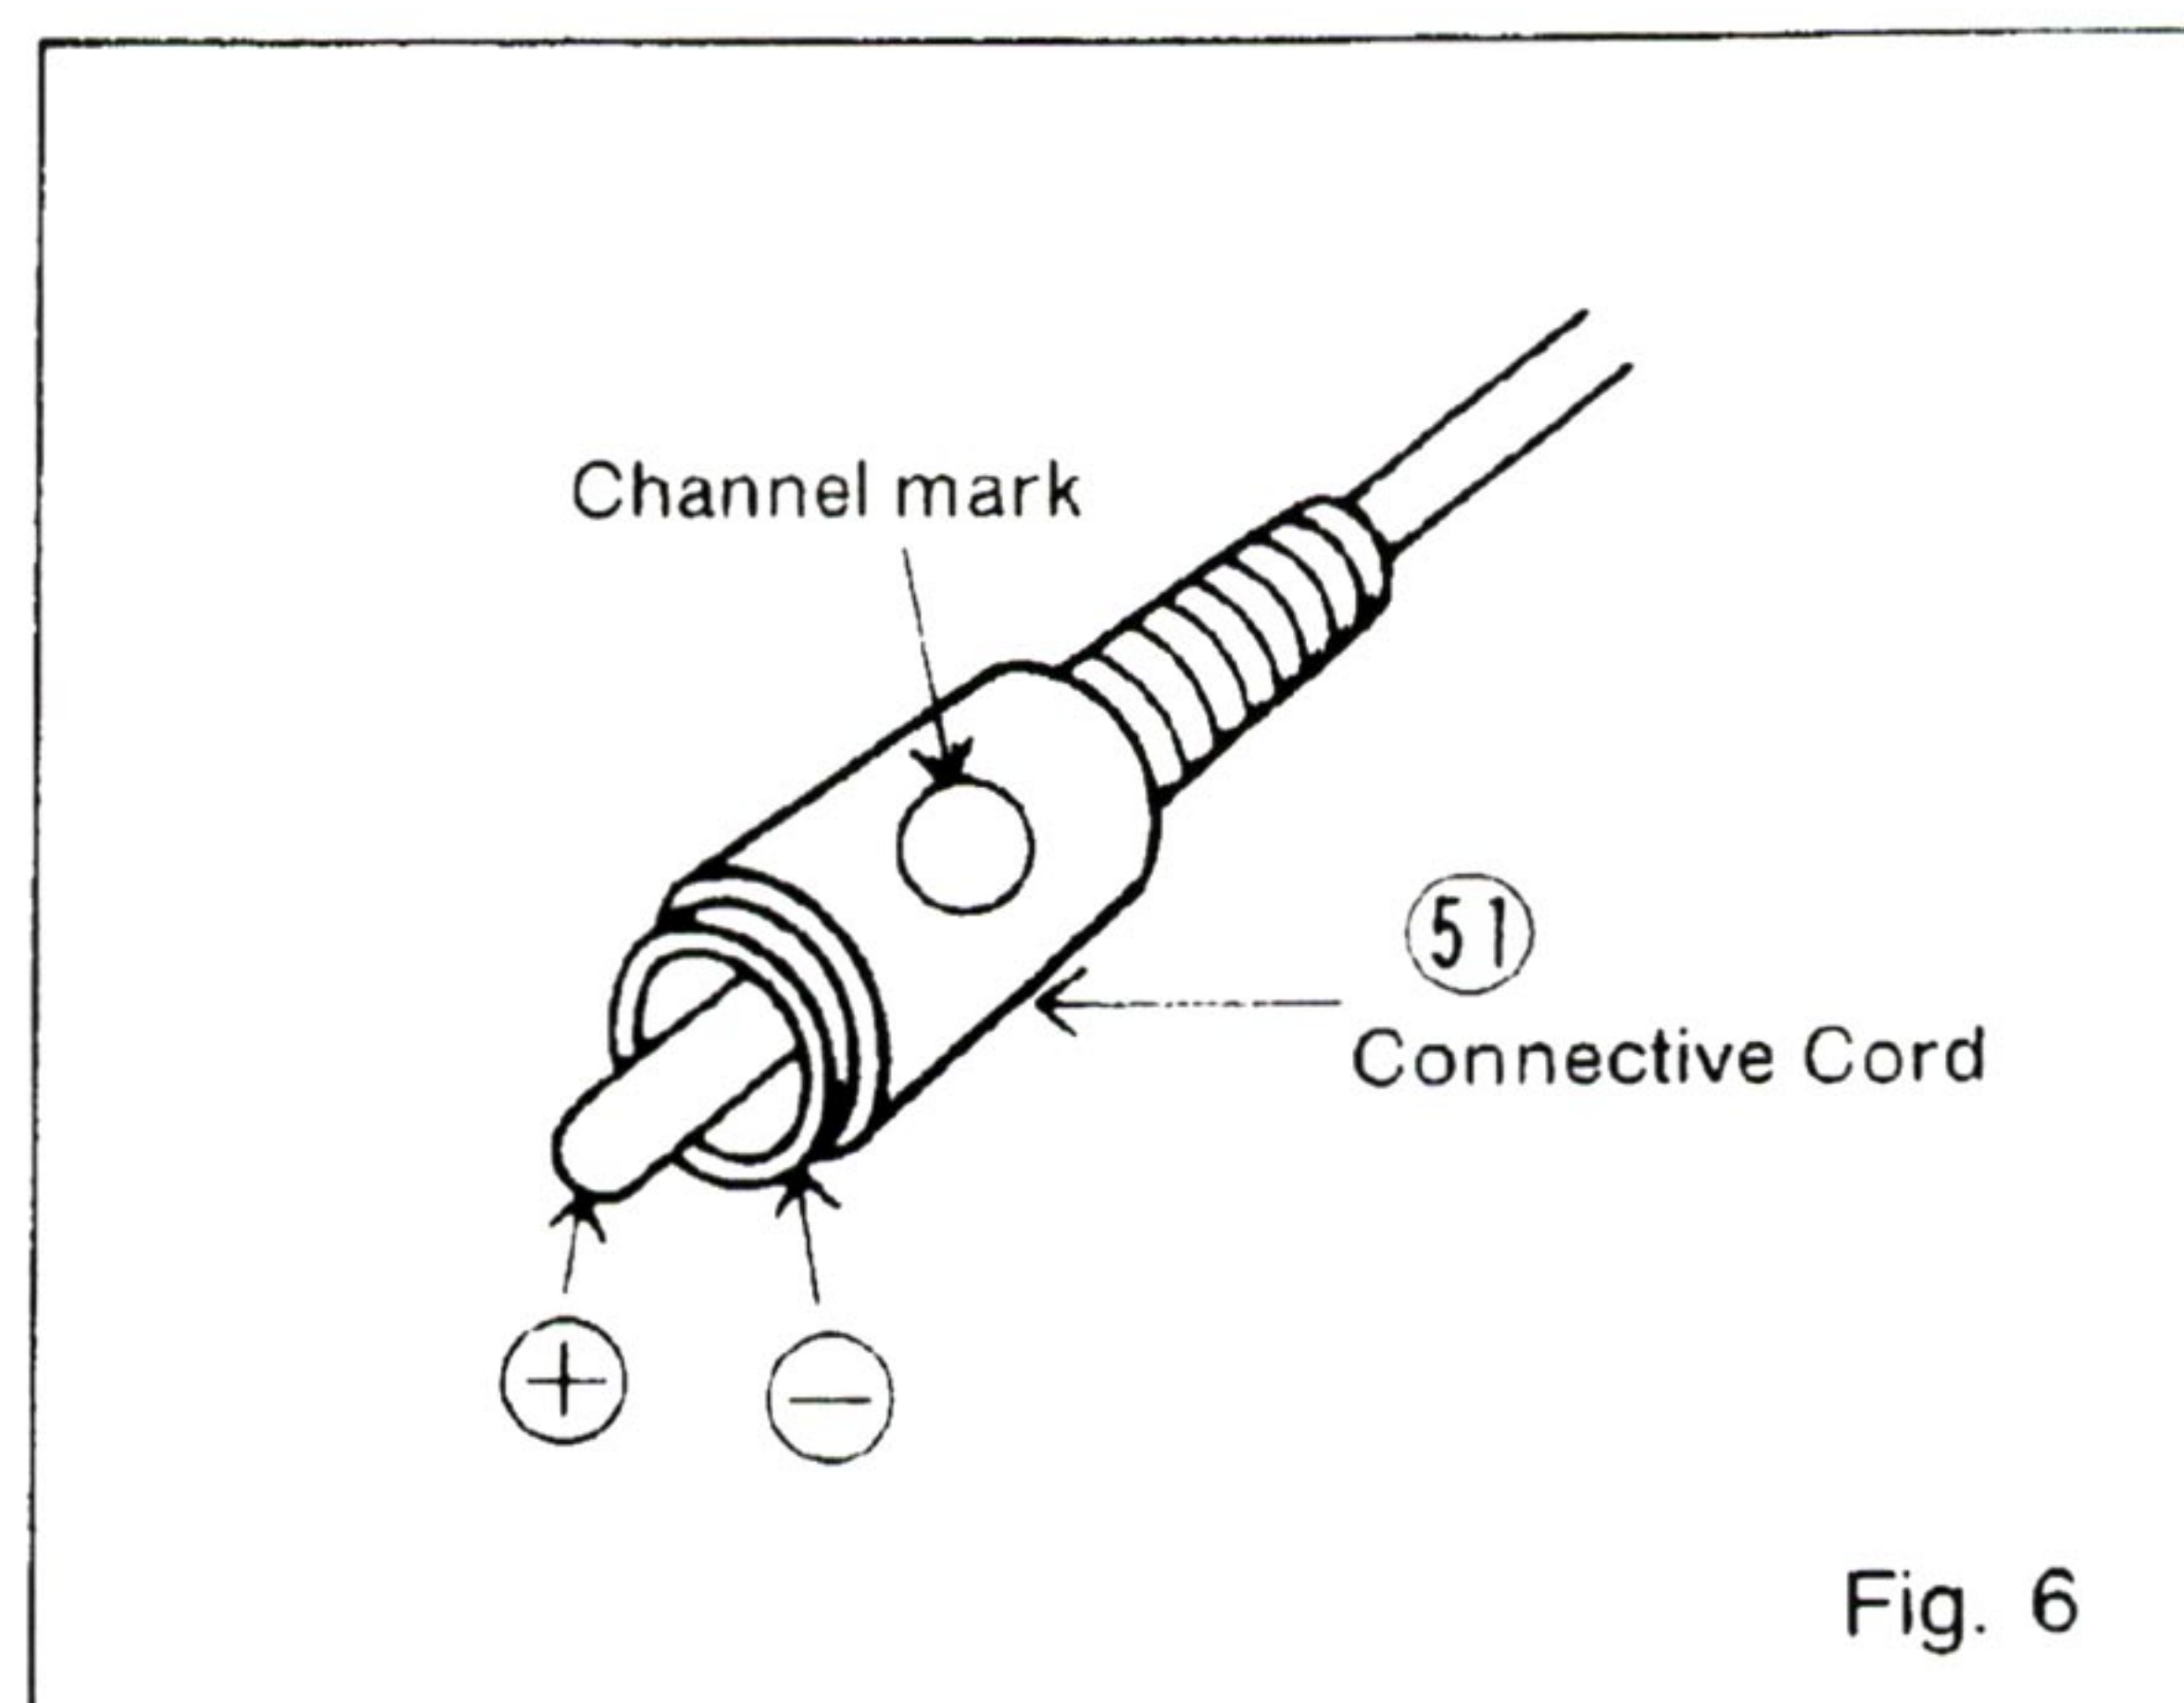

Fig. 6
[No : Perform continuity test between Tonearm (43) end and Connective Cord (51) on dead channel (Fig. 6).